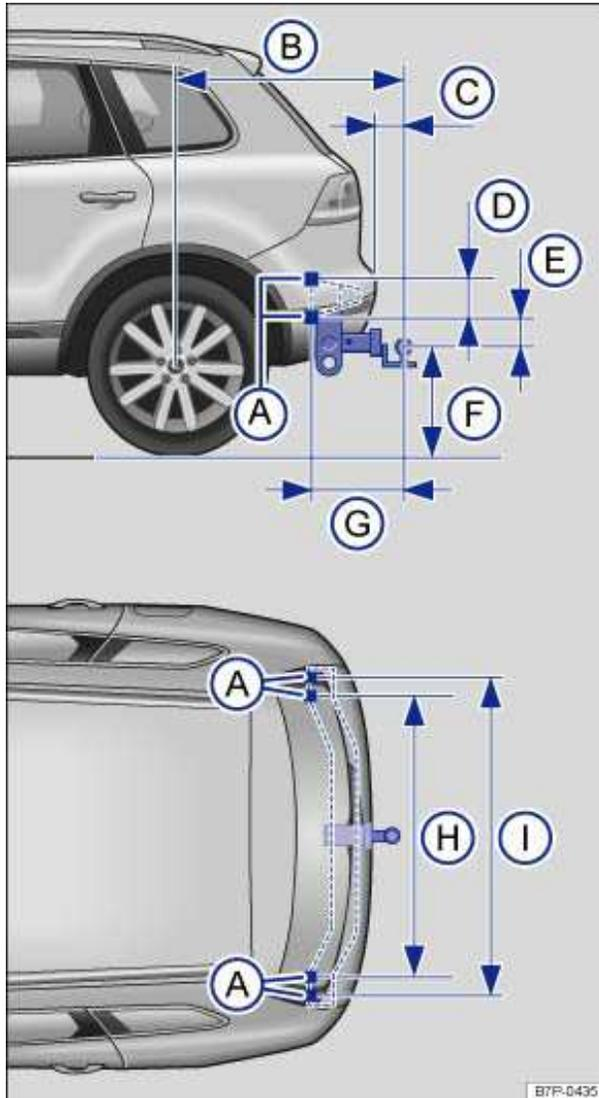

Fig. 108 Dimensions and attachment points for retrofitting a trailer hitch.
⇒ **fig. 108 (F)** be less than the specified minimum. This minimum height must be present even when the vehicle is fully loaded and subject to the maximum tongue weight.